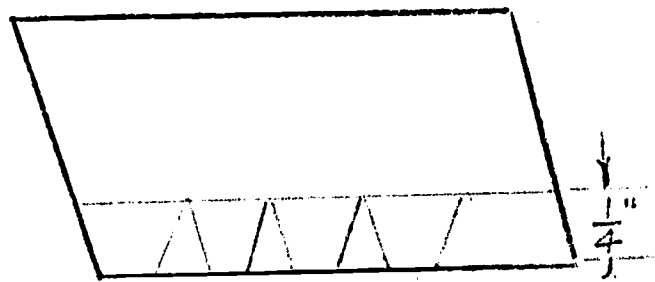

Fig. 2 Make notched cuts with straight snips along layout lines.
12. Layout and scribe a straight line on a piece of 4" x 4" sheet metal. See Fig. 2.